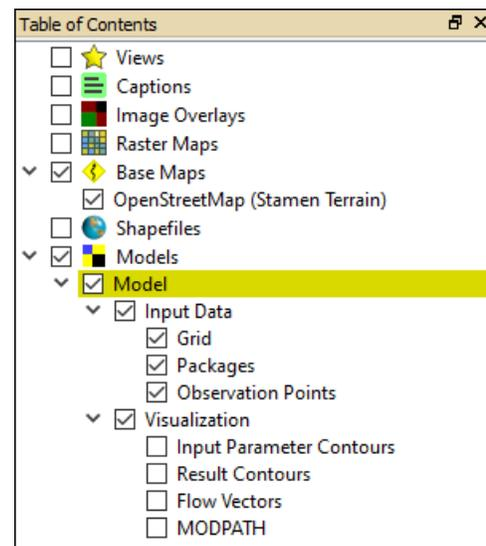

Figure 5. The Table of Contents (TOC) window
4. Click OK. A model is created, a model item is added to the Models group on the TOC² (Figure 5), which contains two major groups, namely Input Data and Visualization. The former can be used to adjust visualization settings of the model grid, flow packages, and observation points. The latter includes Input Parameter Contours, Result Contours, Flow Vectors, and MODPATH that can be used to create visual objects based on the model input data or results.